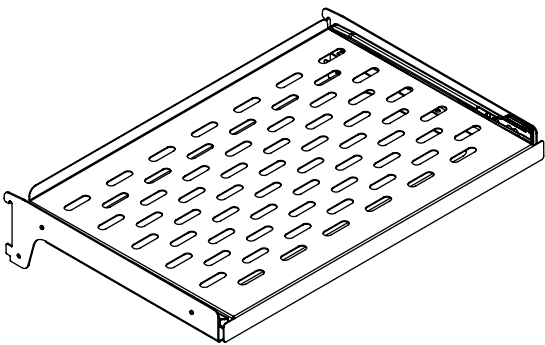

Figure 15
- (2) perforated slide out shelf (See Figure 15)..